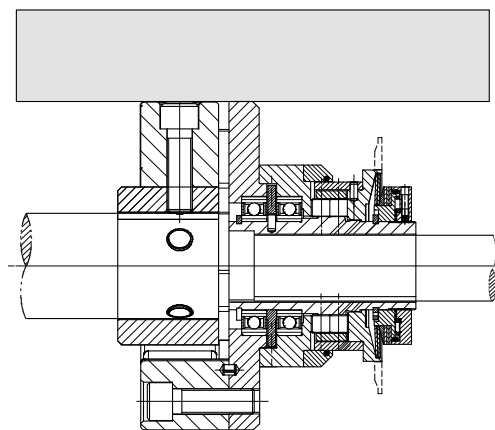

Fig. 3
After clutch installation, it must be aligned carefully, unless the coupled aggregates align well already having been flanged together. The higher the speed, the more careful the clutch should be aligned to make sure that it has a long service lifetime. On this design, alignment can be checked easily by means of a ruler (Fig. 3). In the process, the outer diameter of the elastomer ring (10) on the sides where the radial screws are located must be aligned with the intermediate flange (9) and on various planes.